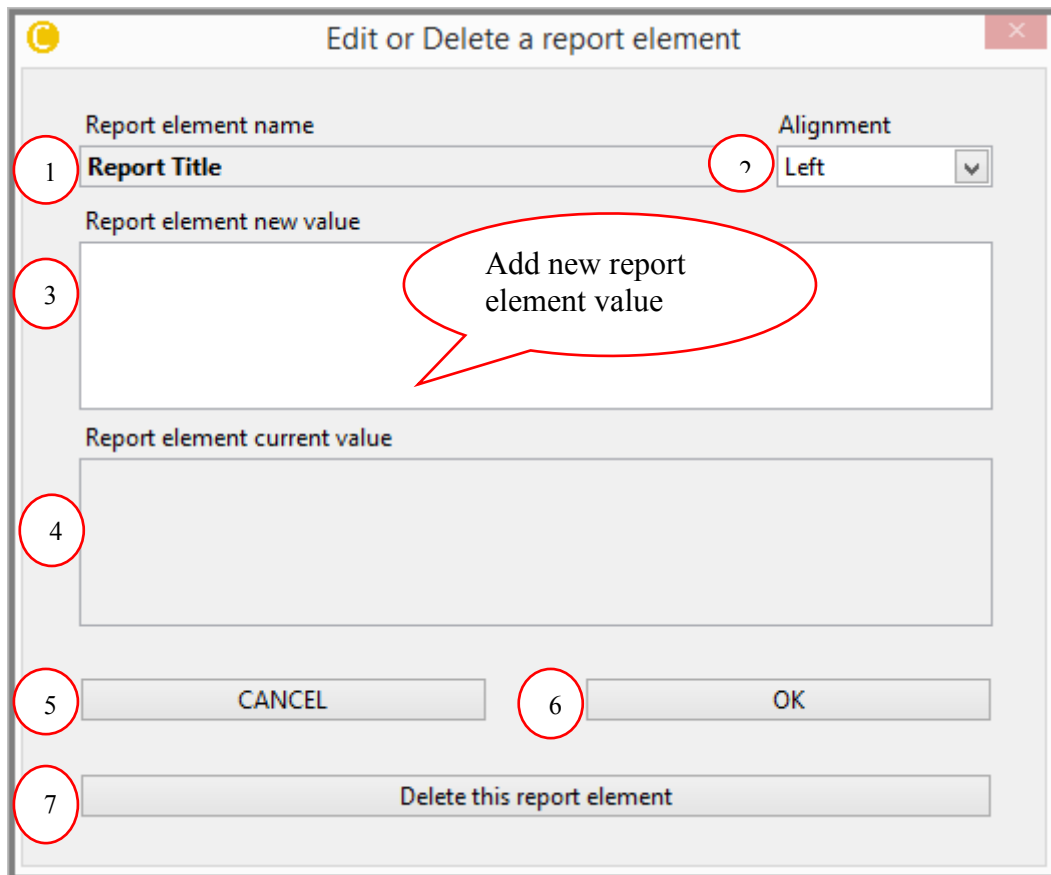

Figure 4-34: Report Template TAB - Edit or Delete report element window for Title, chapter and subchapter
**Report Title, Report chapter, Report sub-chapter** have similar configurable window content as shown in the Figure 4-34.
The numbered items in the above Figure 4-34 are illustrated below: